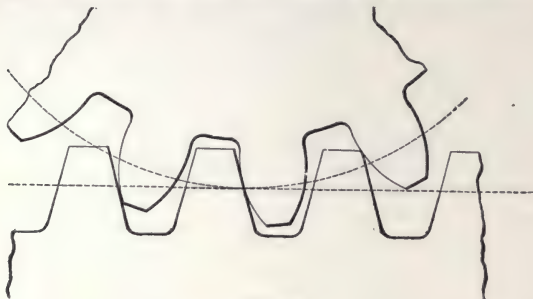

FIG. 26.
**52. Involute Teeth.**—In Fig. 26 is shown the involute form of tooth, which is composed of but one curve.
The **involute** is the path described by any point of a string that is being wound on or off a cylinder, the cylinder being stationary. In the involute system, the sides of the teeth of the rack are straight lines, as shown in Fig. 26.